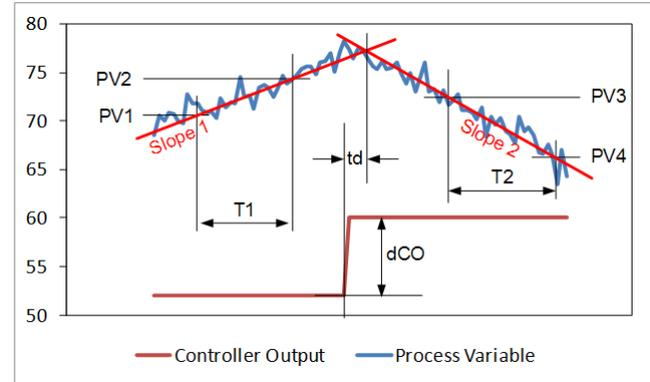

Figure 3
To apply these tuning rules for an integrating process, follow the steps below. The process variable and controller output must be time-trended so that measurements can be taken from them (Figure 3).
2. Determine the process characteristics (refer to Figure 3):
- Draw a line (Slope 1) through the initial slope, and extend it to the right as shown in Figure 3.
- Calculate the difference in the two slopes (DS) as follows: